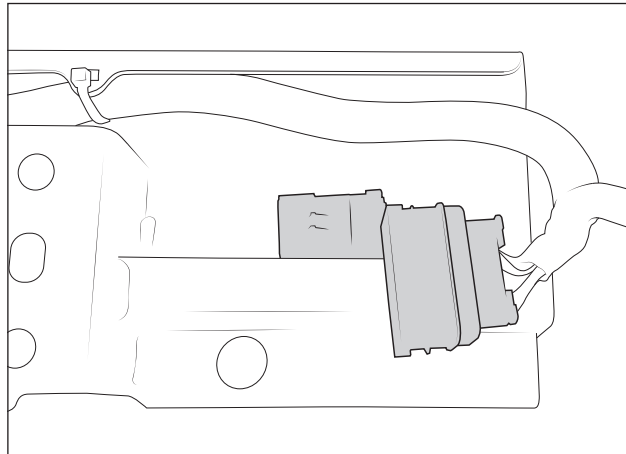

Figure 13
5. Mount the two main factory connectors to the Center Sections mounting locations (fig. 13).